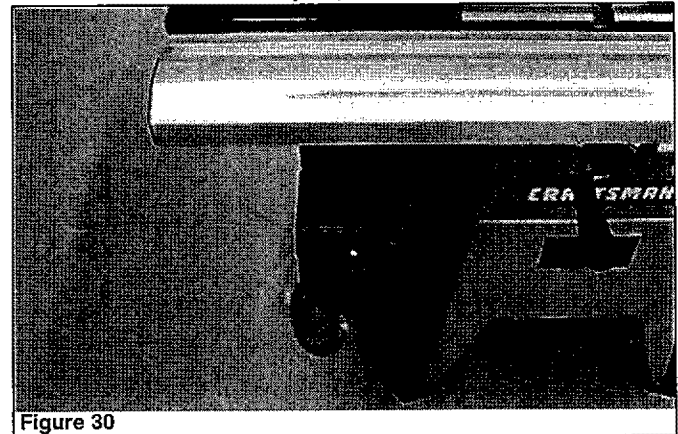

Figure 30
Refer to Figure 30.
- Slide switch assembly 6" to 8" from left end of rail as shown in Figure 30.